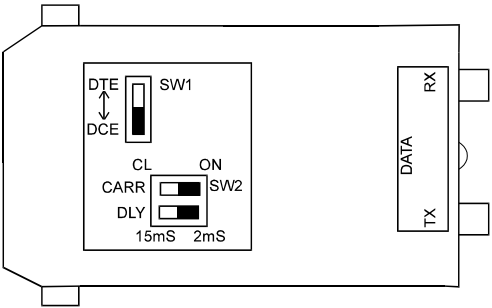

Figure 2. FOM-5A Switch Locations
2. Configure the modem according to *Figure 2* and *Table 2*. Explanations of the switch settings appear on the printed circuit board.